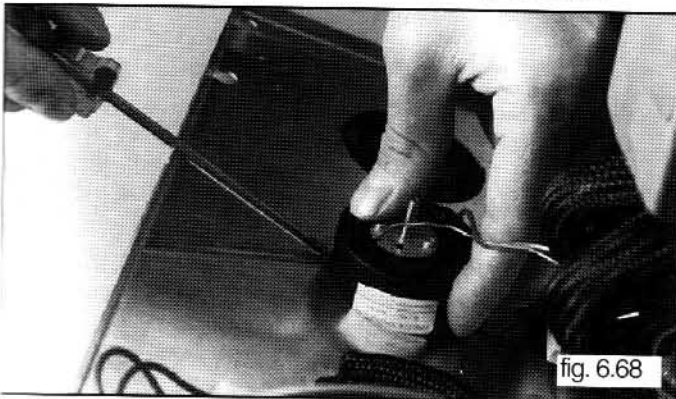

fig. 6.68
- 7 Push on the instrument from the interior to the exterior (see fig. 6.68);